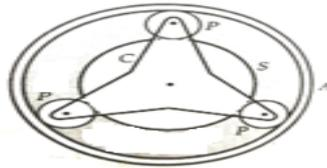

Fig: 6b
- b. An epicyclic gear train for an electric motor, is shown in Figure 6b. The wheel S has 15 teeth and is fixed to motor shaft rotating at 1450 rpm. The planet P has 45 teeth, gears with fixed annular A and rotates on a spindle carried by an arm which is fixed to output shaft. The planet P also gears with the sun wheel S. Find the speed of output shaft. If motor is transmitting 2 HP, then find the torque required to fix the annular. **14** (3:3: 1.7.1)